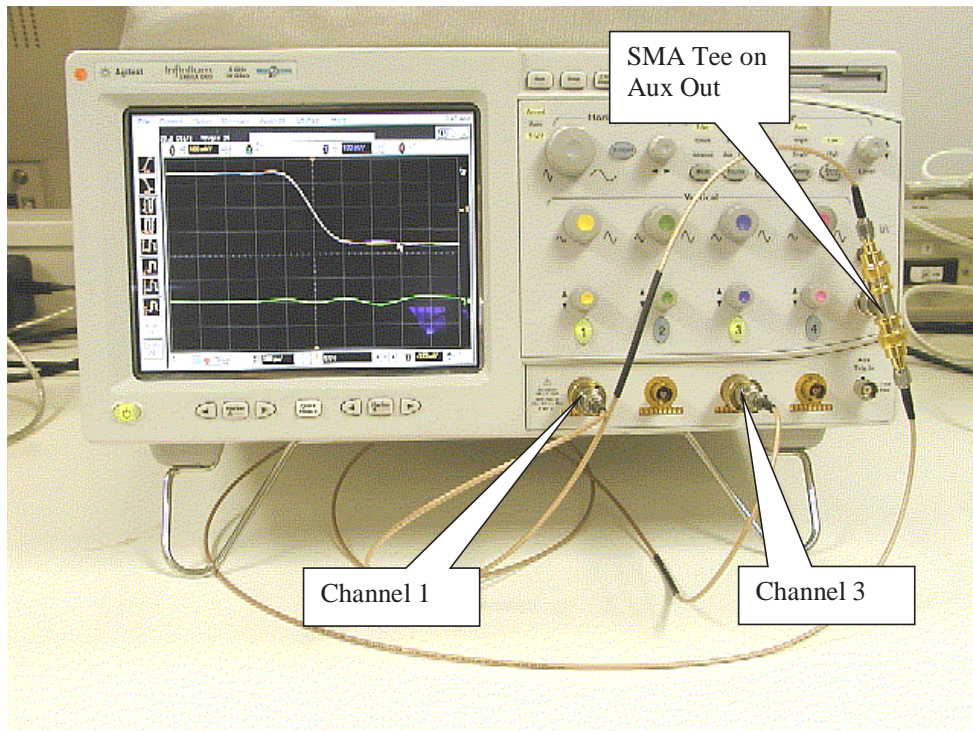

Figure 301 De-skew Connection.
- 1** Referring to Figure 301 below, perform the following steps: